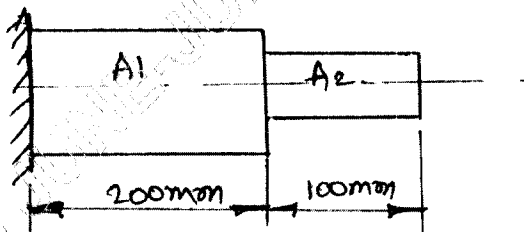

Fig.Q10(b)
- b. For the stepped bar shown in Fig.Q10(b) determine the eigen values and eigen vector. Take $A_1 = 400 \text{ mm}^2$, $A_2 = 200 \text{ mm}^2$, $\rho = 7850 \text{ kg/m}^3$, $E = 200 \text{ GPa}$. (10 Marks)